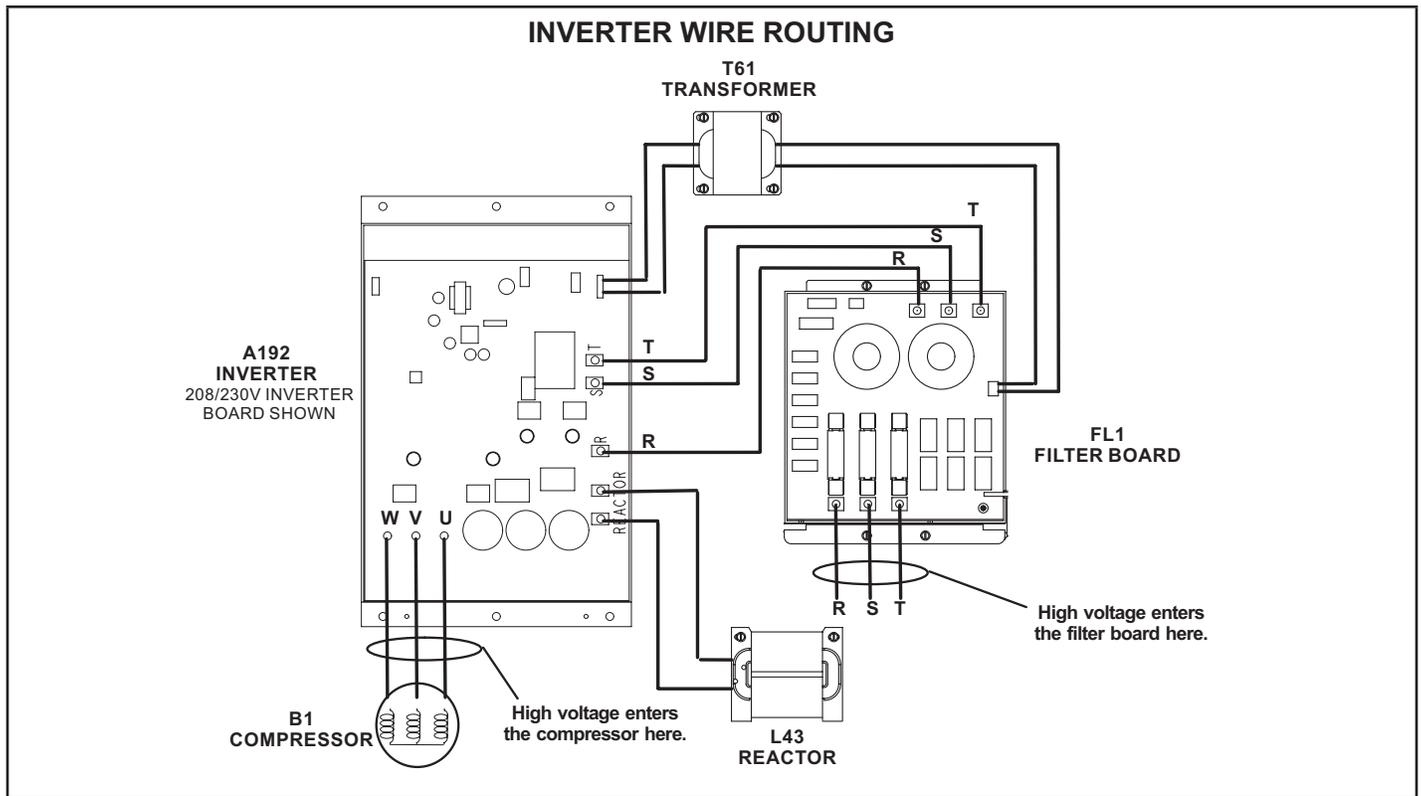

FIGURE 12
-A communication issue - check MODBUS communication wire for good connections between the Unit Controller and the inverter board. See TABLE 2 for inverter-related alarms. Inverter component wire routing is shown in FIGURE 12.